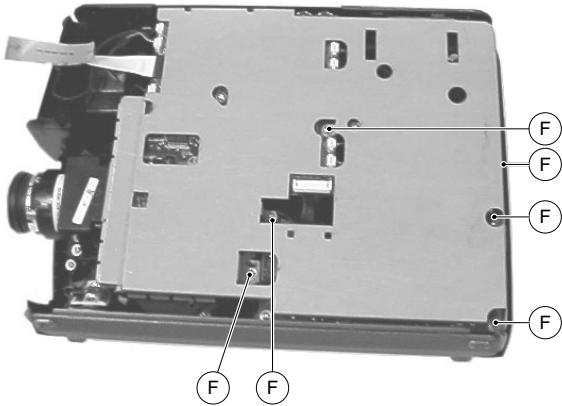

Fig. 5
5. Remove the 6 screws "F" holding the top shield (Fig. 5). Then remove the 3 screws "G" and the 2 screws "H" (Fig. 6). Now the top shield can be removed.